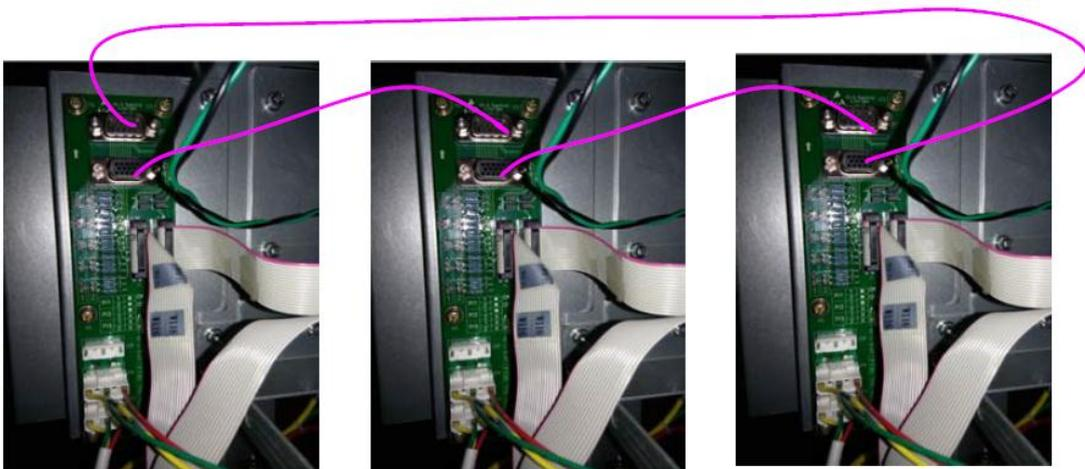

Figure 6 Parallel signal cables connection
- For 3 cabinets' parallel system, connect the parallel signal cables, and check the parallel board settings, as is shown in figure 6 and 7.